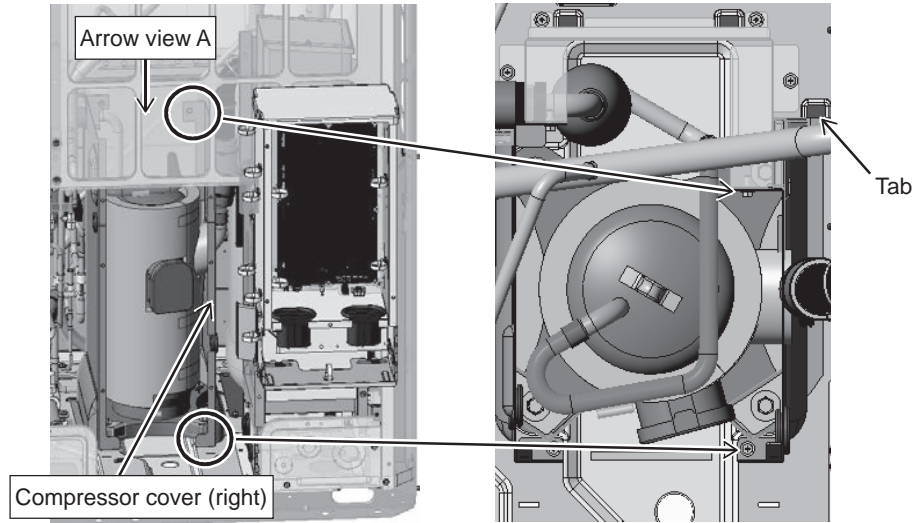

Figure 5
(7) Remove the compressor cover (right). (2 screws and 1 tab as shown in Figure 5.)